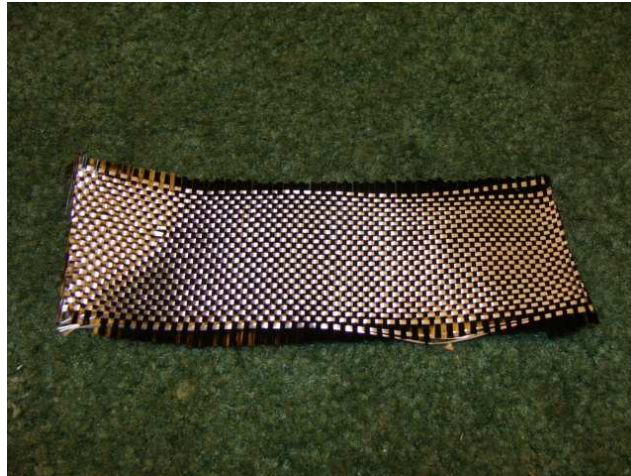

Fig 10 -2 ounce fiberglass/carbon fiber cloth
1. With the fuselage oriented so you look down on top of the nose gear mount; notice the area inside the fiberglass part of the fuse. This is where the cloth will be applied. See Fig. 10.